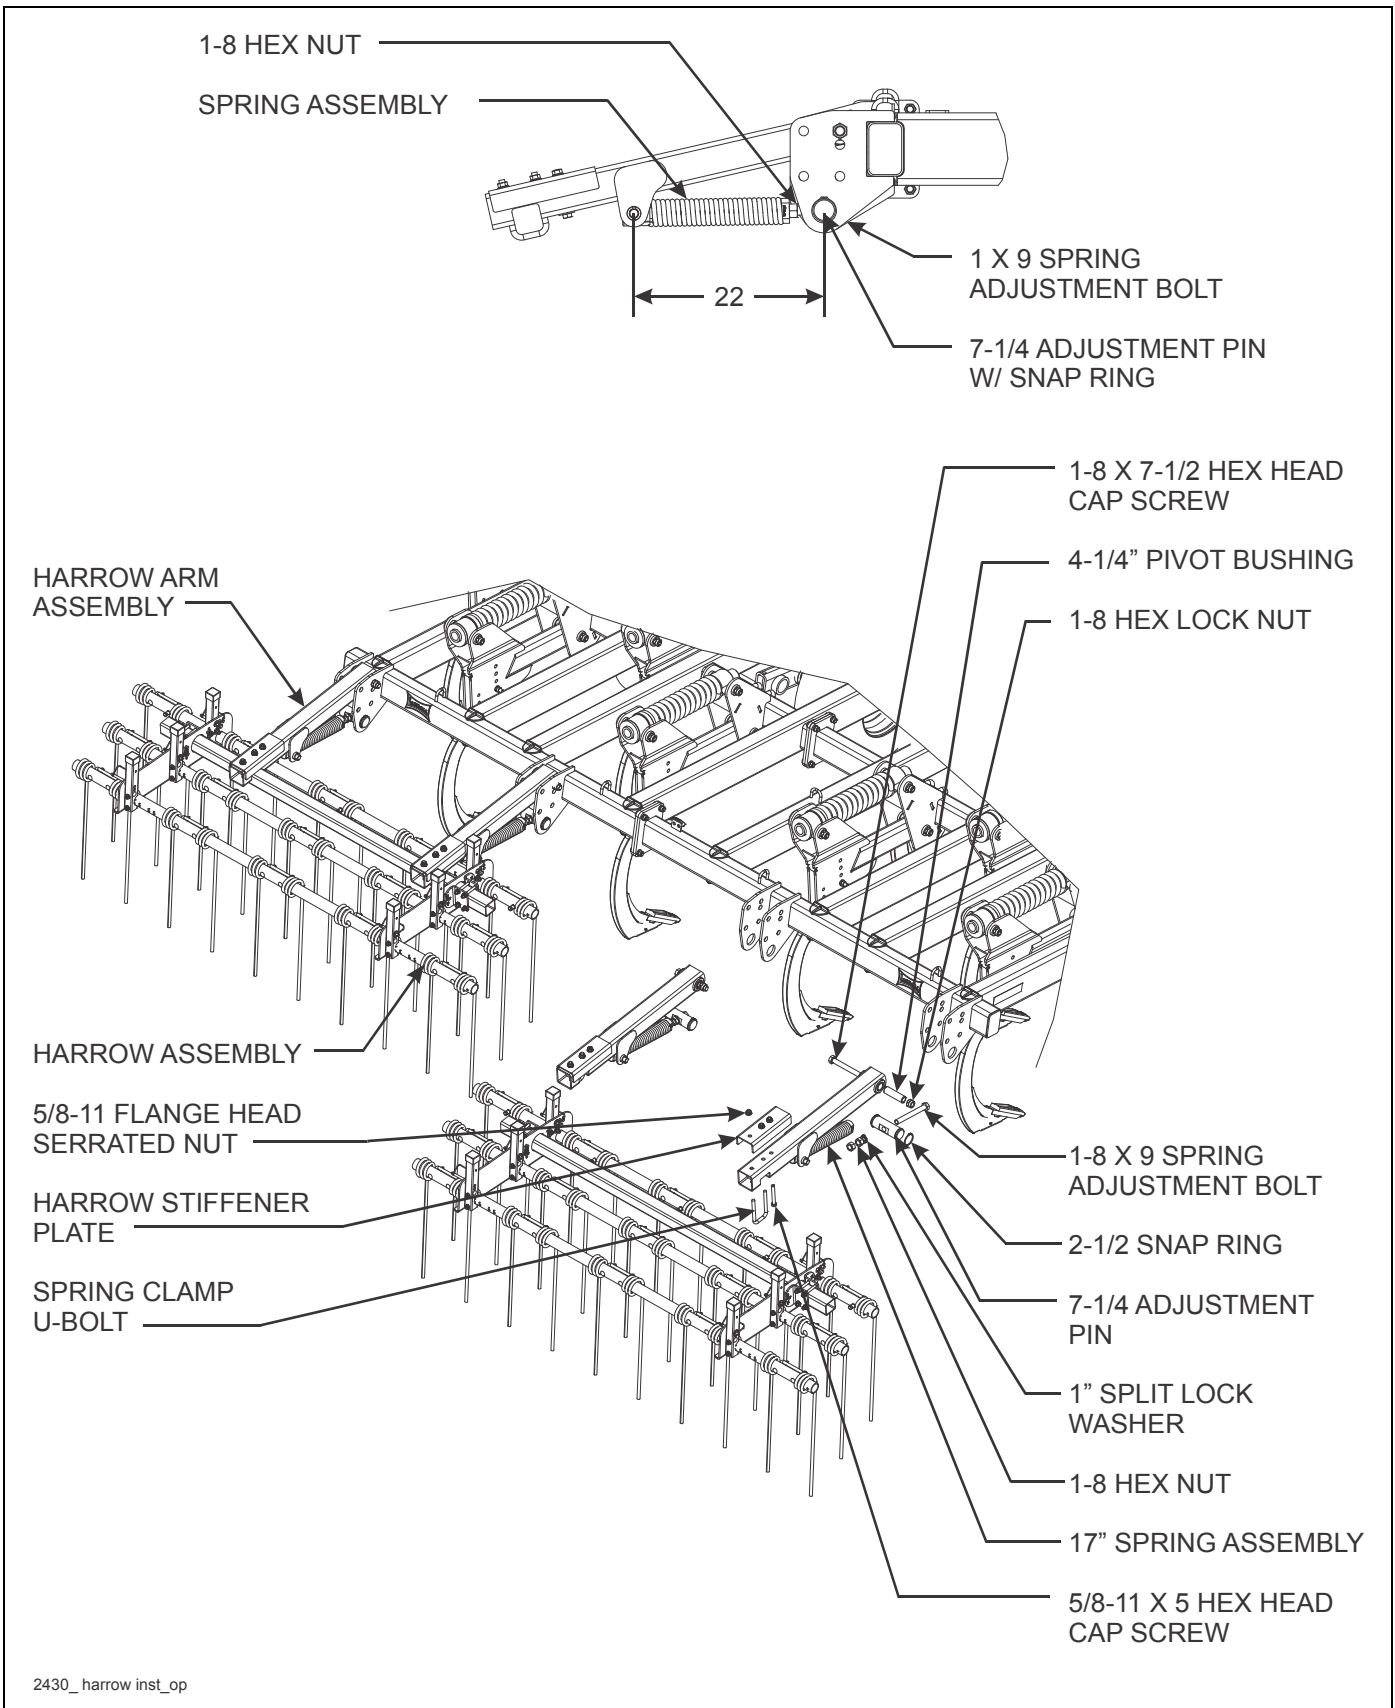

Figure 3-26: Finishing Harrow Installation
1. Attach harrow arms to rear of frame in top hole using 1-8 x 7-1/2 hex head cap screws and hex lock nuts (See Figure 3-26.)